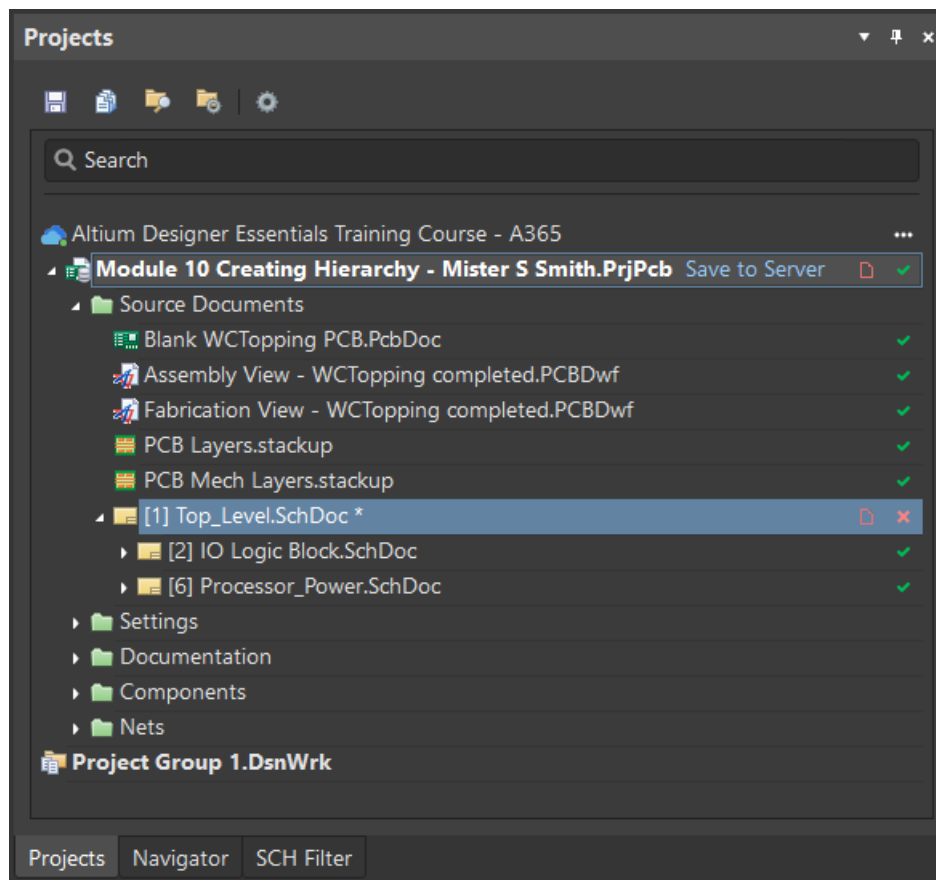

Figure 9. Hierarchical Design Project Structure
30. If the Schematics are not the first documents shown at the *Projects* panel, section Source documents, select and move the `Top_Level.SCHDoc` to the first position, See Figure 9 for reference.